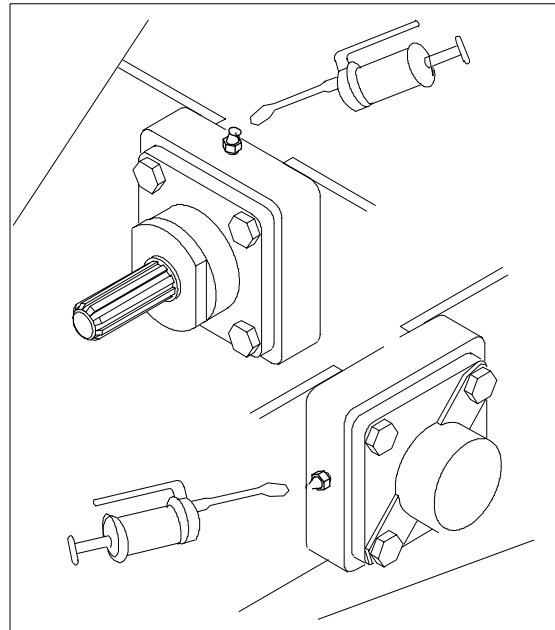

Fig. 13. Lubricating the bearings.
- Lubricate the bearings with ball bearing grease weekly when the chipper is in use. Otherwise, lubricate at least once a year. See Fig. 13.